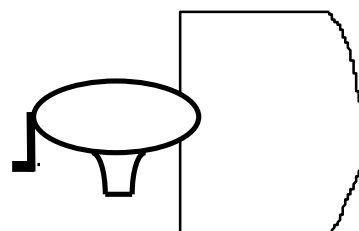

Figure 11.17d
3. Next you should replace the bulb in 11.17a with a single wire as in Figure 11.17d and attempt to keep cranking the handle at the same rate of rotation. First, however, predict you the force you must exert will be different.